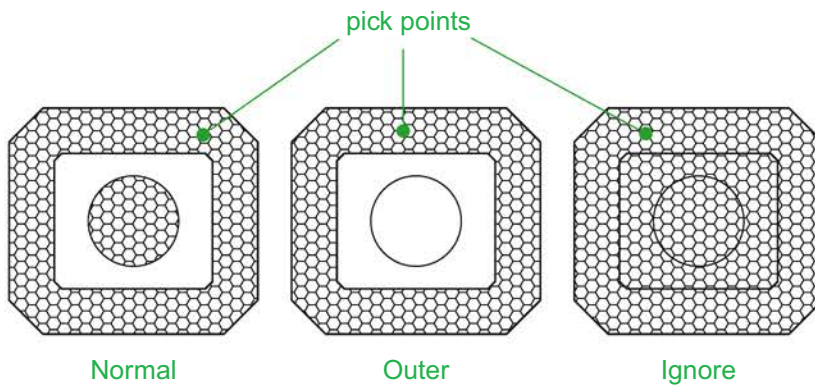

Fig. 7.20 Fifth example – advanced hatching
FIFTH EXAMPLE – ADVANCED HATCHING (FIG. 7.20)
1. Construct a drawing that includes three outlines, as shown in the left-hand drawing of Fig. 7.20, and copy it twice to produce three identical drawings.